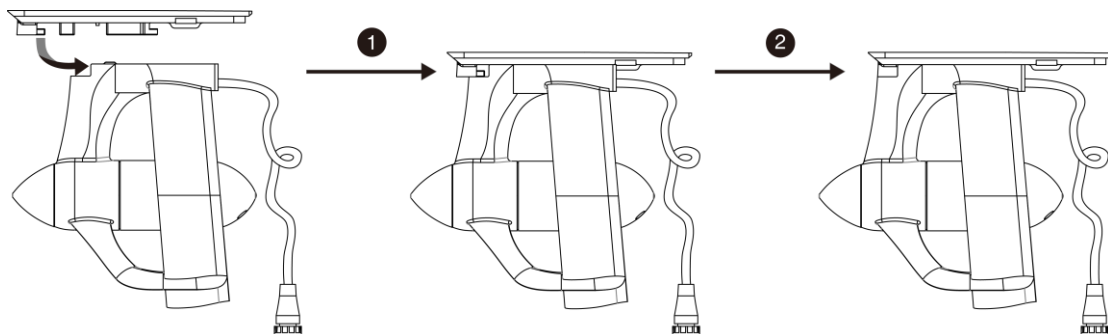

Figure 3-3
- 1) Attach an inflatable SUP fin box adapter onto the motor module base as shown in Figure 3-3. First align the adapter with the motor base; then insert the adapter into the motor base until it is well attached.